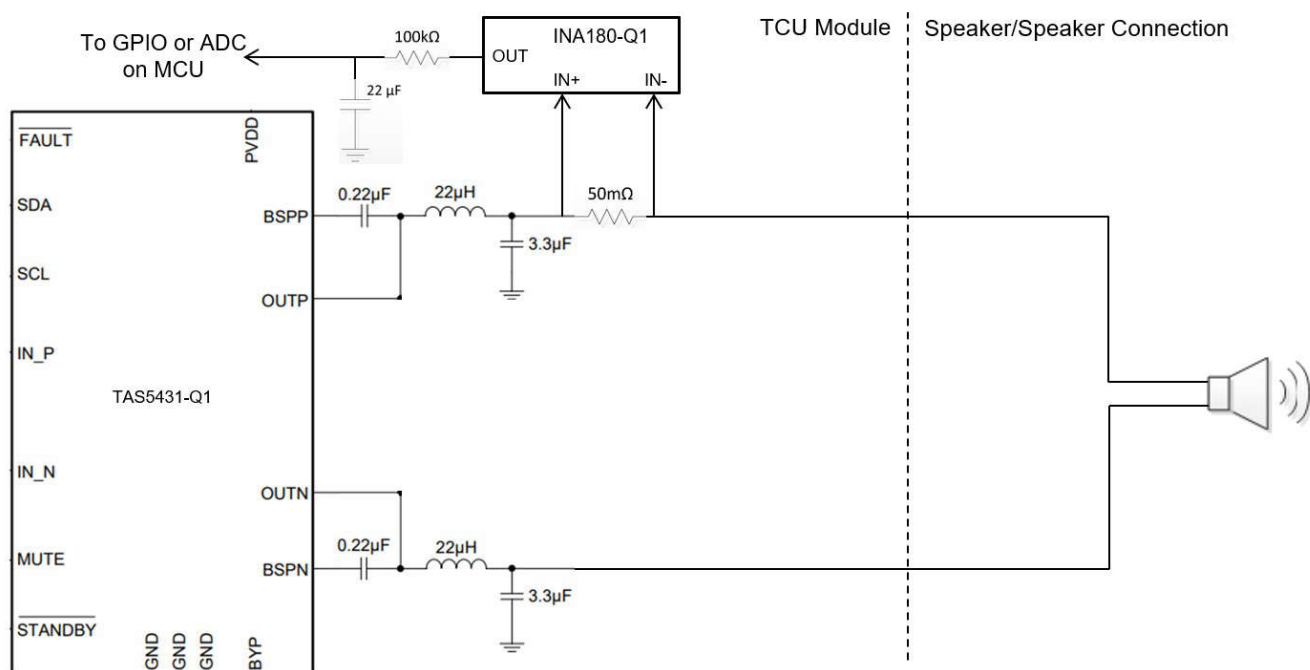

Figure 4. Implementing a simple current-sense amplifier circuit with the TAS5431-Q1 enables the detection of open circuits
Implementing a current-sense resistor, a current-sense amplifier, and a resistor-capacitor (RC) filter (**Figure 4**) in conjunction with the same 5Hz, 200mV peak-to-peak baseline signal enables the system to detect a speaker or open-load condition.